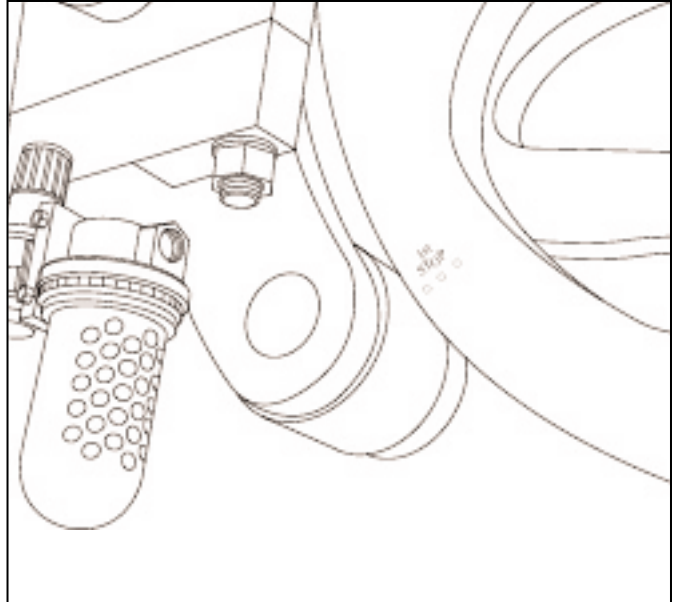

Figure 5.1 "FIRST STOP" (R.H. side of machine).
- 5.3.1 Run machine to "first stop" (feed box all the way forward). See figure 5.1.
- 5.5.1 Run machine to "first stop" (feedbox all the way forward) (see figure 5.1).